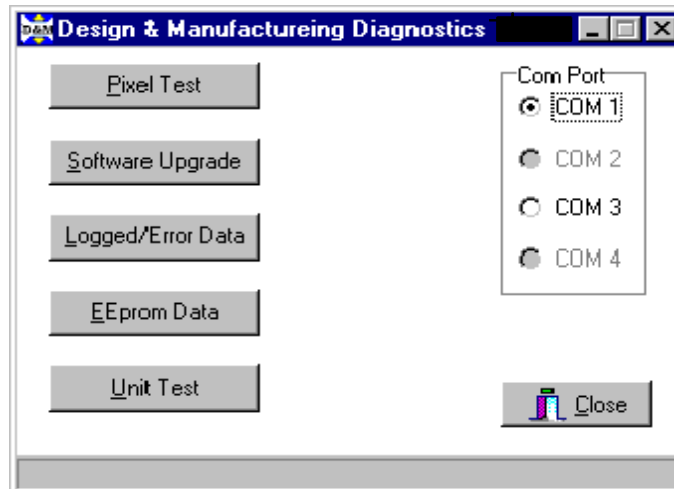

Figure 1
2. Select “Unit Test” (shown in Figure 1). You will get the following screen: